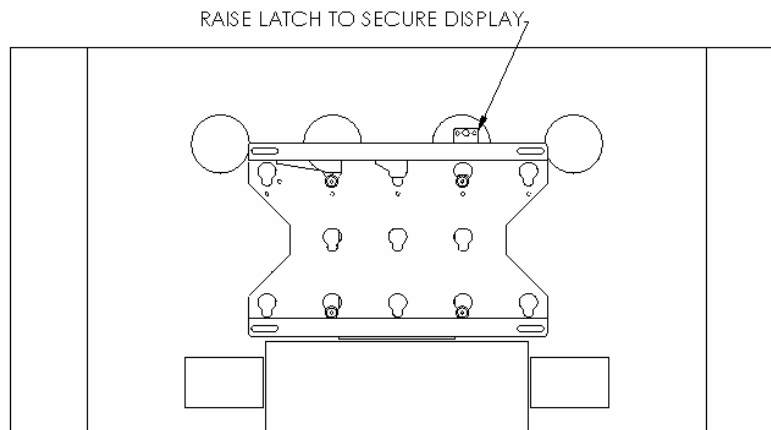

Figure 5
6. Position (raise) the flag to secure the display (see Figure 5).